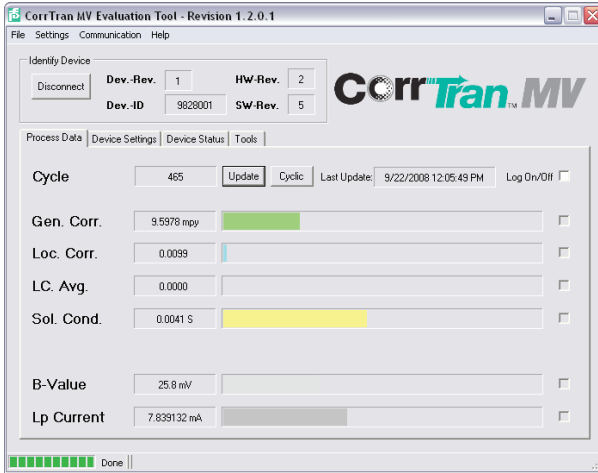

Figure 24. After Successfully Connected
- Press the 'Connect' button to establish communication between the CorrTran AQUA and CorrTran MV Evaluation Tool. If everything has been done properly all the fields will be populated as seen in Figure 24.